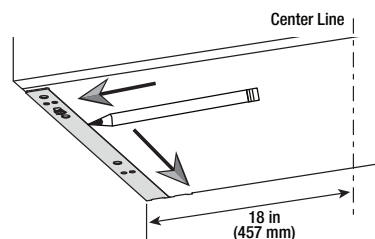

Fig. 17-1
- Align the bracket against the side edge of the 36 in (915 mm) cabinet cabinet and the back wall. Draw a line along inner edge of the bracket as shown in fig. 17-1.